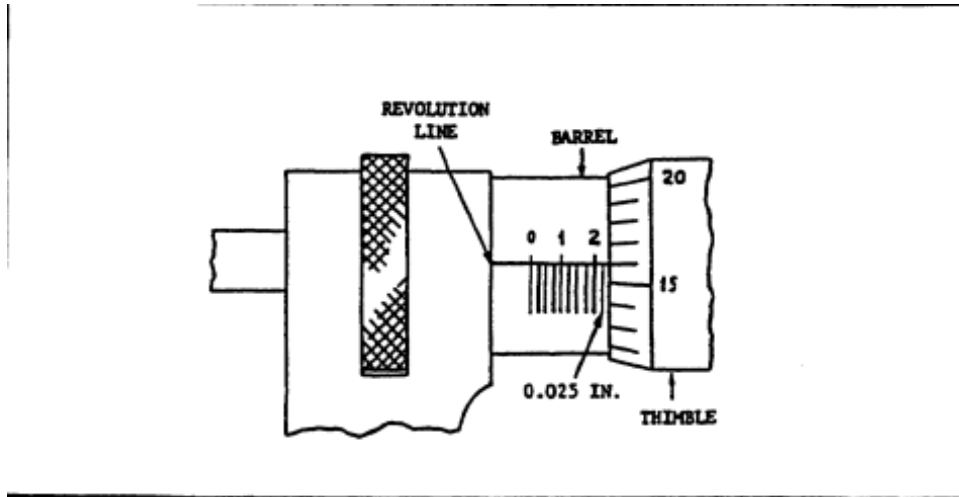

figure 4
5.2 READING A MICROMETER Interpreting a reading of a micrometer measurement is much like reading a vernier caliper. To read a micrometer, you compare the positions of two scales. The scales on an outside micrometer and a depth micrometer work the same. If you learn to read one, you will know how to read the other. The only calculation difference will be the way you count the size (range) of the outside micrometer used or the length of extension rod used on a depth micrometer. First, let's learn how the scales work. Understanding Standard Micrometer Scales Again, you must understand how the scales work before you can interpret a reading. The scales on standard and metric micrometers both work on the same idea. However, the meaning of the graduation lines changes. To understand how the scales work, we will use the standard micrometer as an example. On a standard micrometer, one scale is on the barrel. The other scale is on the thimble. The scale on the barrel is fixed. It does not move. The scale on the thimble moves along the barrel scale (figure 4, below).
First, check where the thimble edge is on the barrel scale. Read the highest figure visible on the barrel. In figure 4, on the previous page, this number is 2. Therefore, you know that the micrometer screw has moved more than $2/10$ (0.20) of an inch.
Count the number of lines you can see between the number you just read (in this case, 2) and the thimble edge. In the sample in figure 4, you can see only one line. Each line stands for 0.025 inch. Add what you have so far. In this case, you should get (0.20 inch + 0.025 inches) a total of 0.225 inch. You now know that the screw has moved more than 0.225 inch.